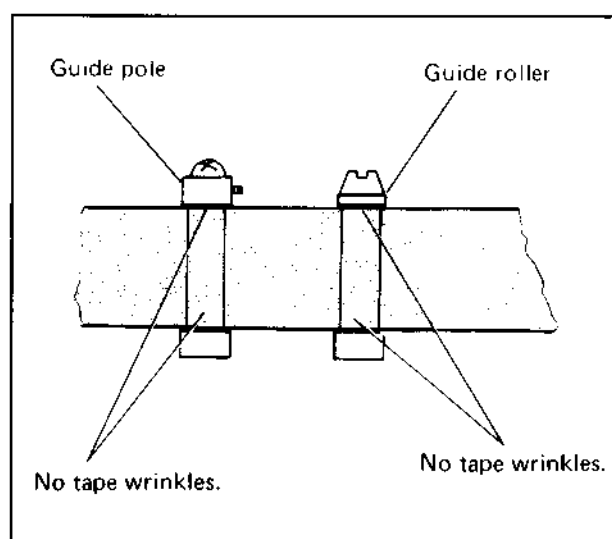

Fig. 4-33
2. Observe tape traveling at the supply guide pole, full erase head, guide rollers and take-up guide pole and confirm absence of tape wrinkles (see Fig. 4-33).